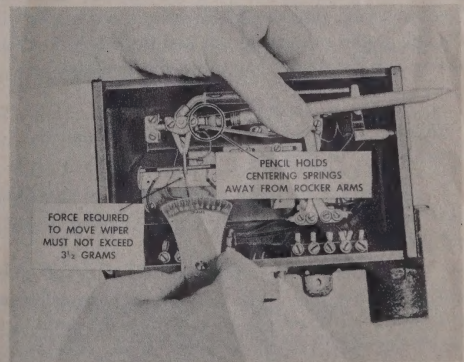

Figure 318 — Checking Freedom of Rudder Potentiometer Wiper Movement
2. Place the eraser end of a pencil between the centering springs as shown in figure 318. Then place the end of a gram gage against the end of the rudder potentiometer wiper and move it to one side. Note the gram gage reading at the point where the rudder potentiometer wiper just begins to move.